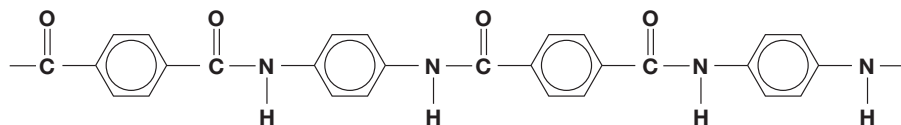

Figure 6.18 ▲
This suggests that the properties of polyamides can be modified by changing the length and nature of the hydrocarbon sections. Chemists have followed up these ideas to develop polyamides in which the hydrocarbon sections are aromatic rather than aliphatic. These polymeric **aromatic amides** are described as aramids. Aramids, such as Kevlar (Figure 6.18), are extremely strong, rigid, fire-resistant and lightweight.
1 Look closely at the structure of one chain of Kevlar in Figure 6.18.
- Weight-for-weight, Kevlar is five times stronger than steel. This exceptional strength is due to hydrogen bonding between the separate chains. Use Figure 6.18 to explain why inter-chain hydrogen bonding is so strong in Kevlar.